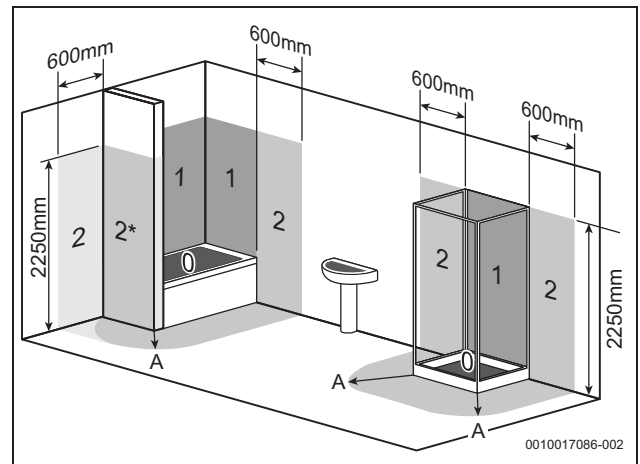

Fig. 13 Bathroom installations
- Figures 13 and 14 are for guidance only.